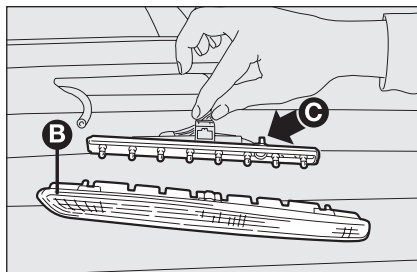

fig. 33
- ☐ remove the lens unit **B-fig. 33** and disconnect the electric connector;
- ☐ press the tabs **C-fig. 33** and remove the bulb holder;